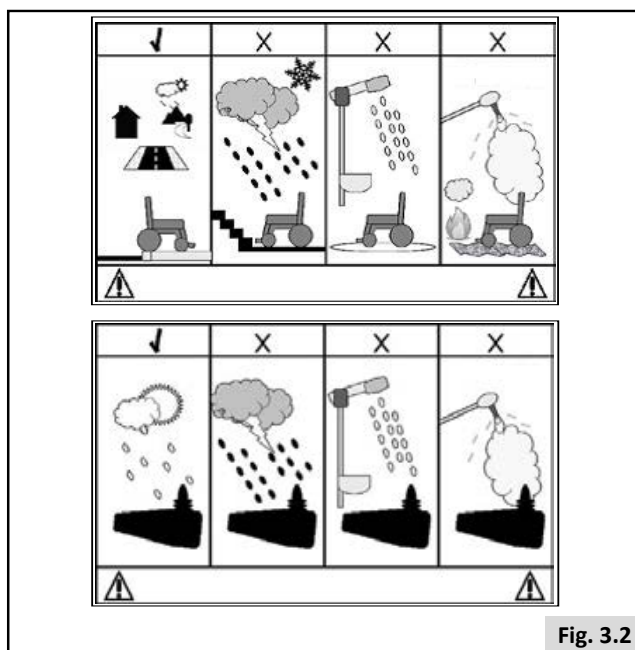

Fig. 3.2
**3.2 Area of application: The user environment, Fig 3.2**